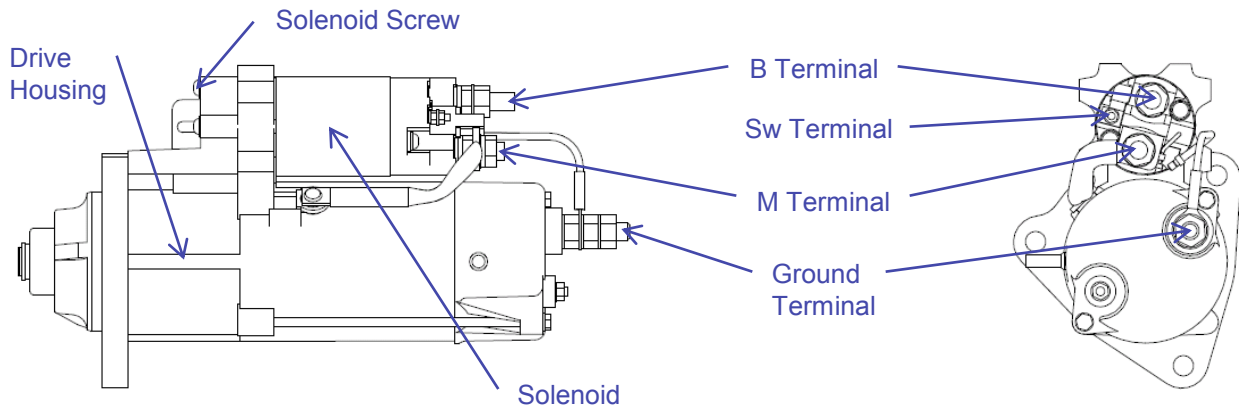

Figure 1: Starter Component Locations
- 2) Remove nuts from solenoid's M terminal, and starter's ground terminal. These terminal locations are shown in Figure 1. Disconnect cables connecting solenoid to the motor
- 4) Re-connect wires as shown in Figure 1